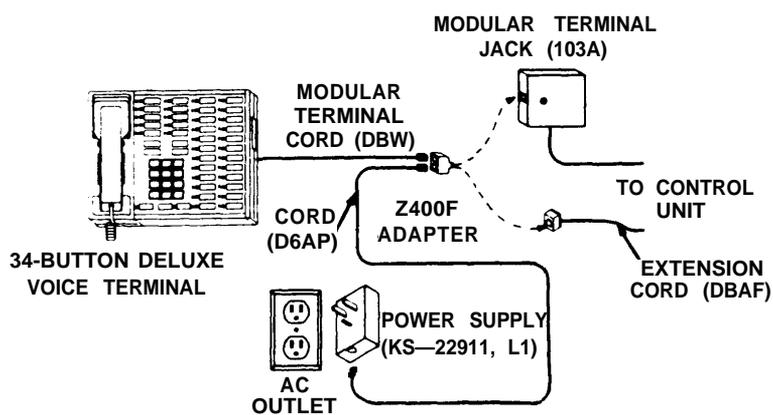

Figure 2
2. Plug the Z400F Adapter into the modular terminal jack or extension cord from which the modular terminal cord was disconnected in Step 1 (see Figure 2).
1. Disconnect the modular terminal cord (D8W) from the modular terminal jack (103A) or the extension cord leading to the control unit (see Figure 2).